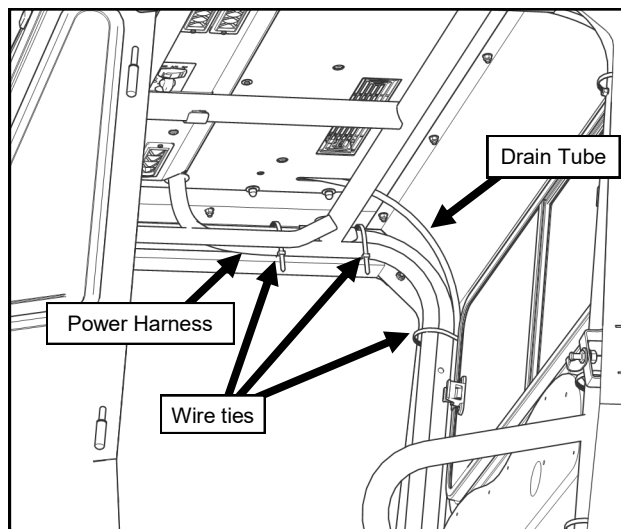

Fig. 6.1 (Power Harness & drain routing)
- 6.1** Route the power wire harness along the inside of the right side upper ROPS bar and secure with 2 wire ties to the upper bar per Figure 6.1. Secure the power harness to the front inside and the drain tube to the rear inside of the ROPS, just below the rear corner bend. Leave wire ties fairly loose.